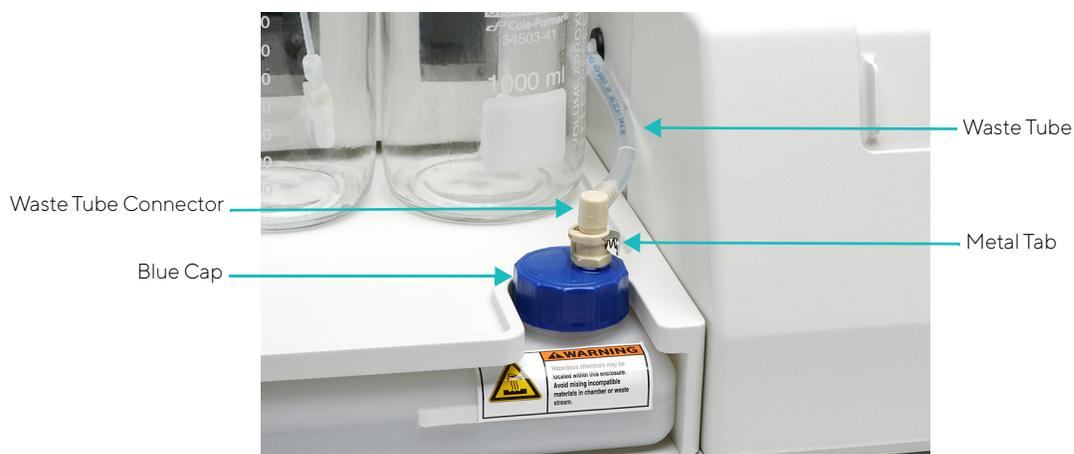

Figure 12-4: Waste Tube and Waste Container
1. To remove and empty the waste container, begin by setting the flow rate to **0 $\mu\text{L}/\text{min}$** from the Operation page of the software. Locate the waste tube coming from the sample chamber and connecting to the waste container (Figure 12-4).